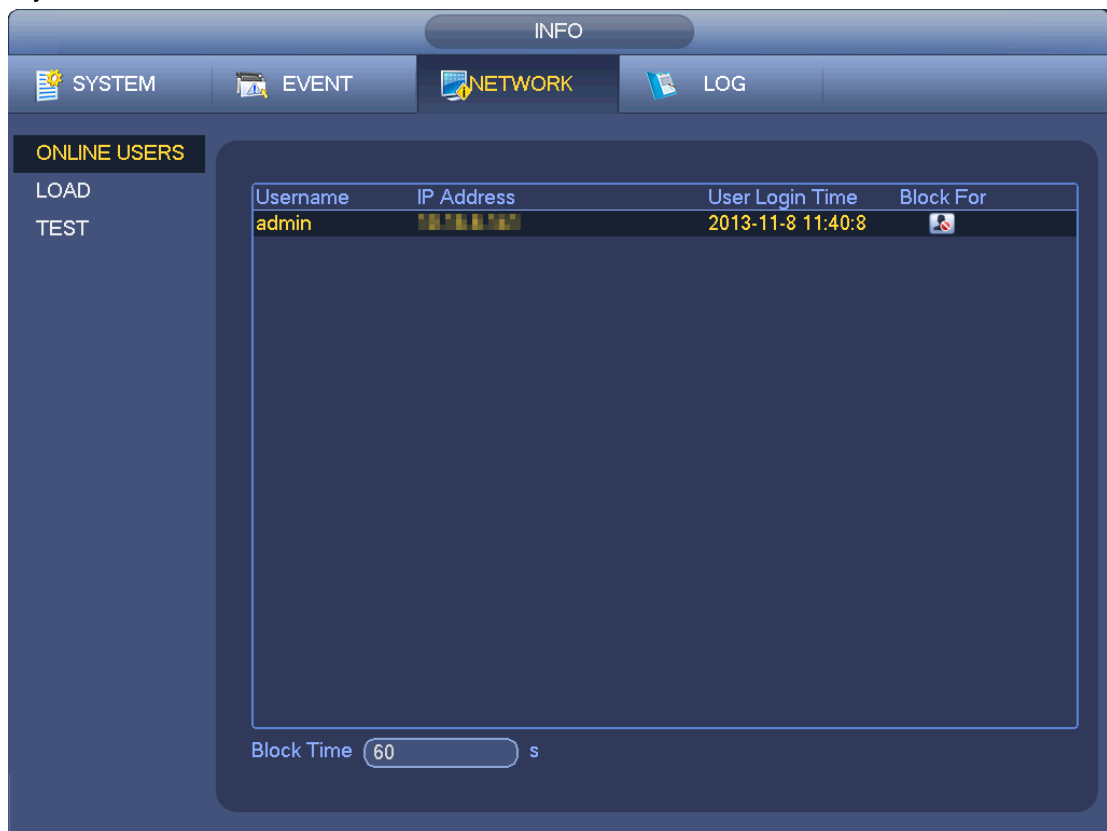

Figure 4-227
Enter add group interface. See Figure 4-227.
Step 2 Click add group button in Figure 4-227.